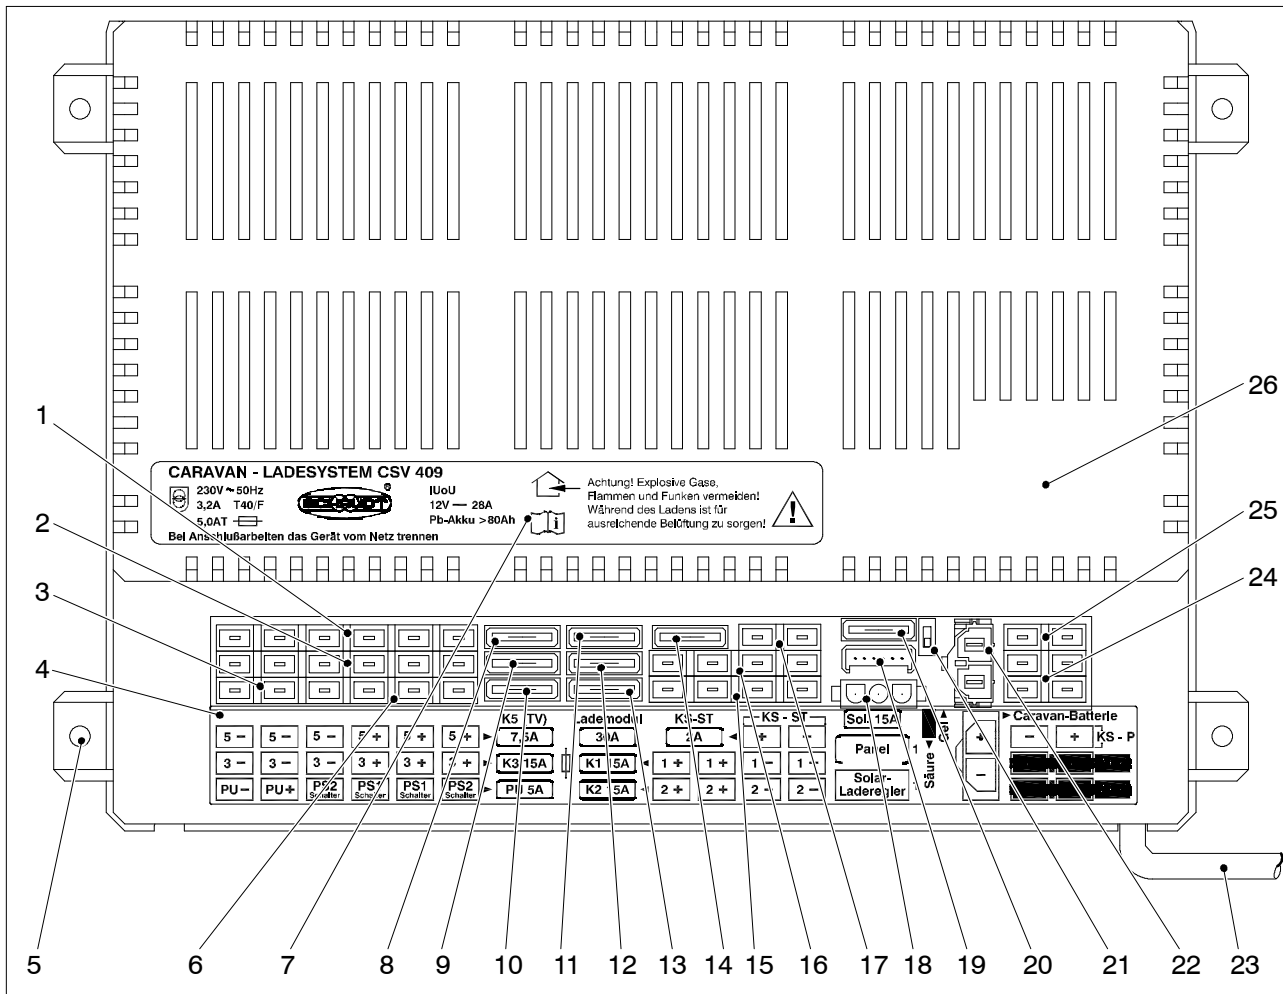

Fig. 2 CSV 409 A caravan charging system viewed from front
- You must ensure that the battery selector switch (Fig. 2, Pos. 21) is set to the correct position for the type of battery being used.
- Move the battery selector switch (Fig. 2, Pos. 21) into the relevant position using a thin object (e. g. ball-point pen):